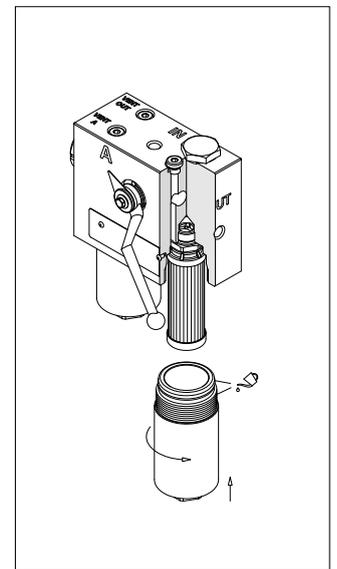

fig. 12
- (Fig. 12) Lubricate the thread and the O-ring of the bowl, then screw the bowl in referring to the tightening torque table in paragraph 3